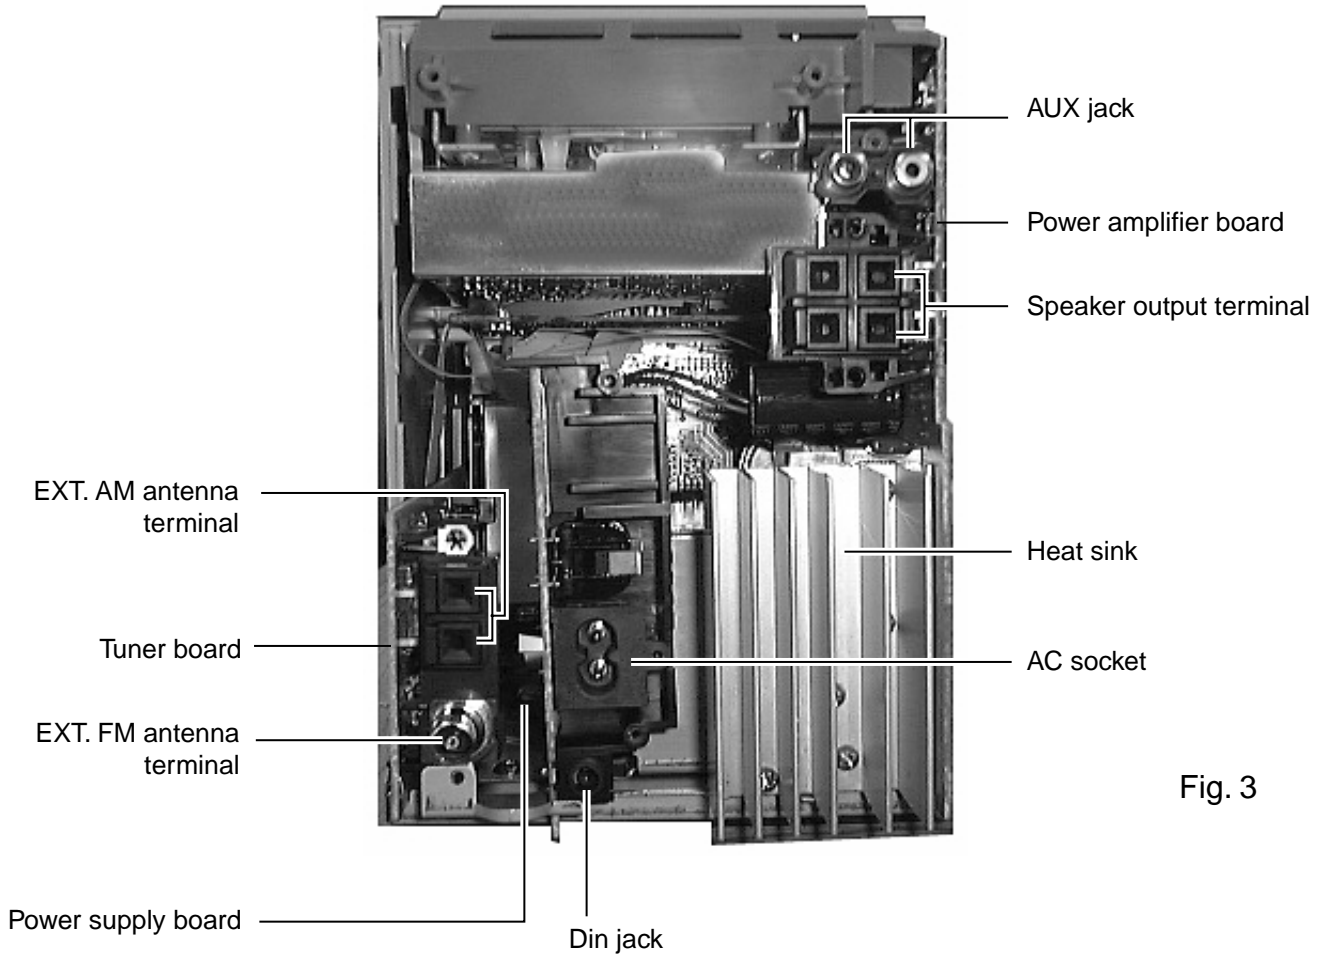

Fig. 3
■ Removing the side panel (L and R) (See Fig. 3 to 6)
3. While moving the side panel (L) in the arrow direction, remove the panel from the left side of the body.
4. While moving the side panel (R) in the arrow direction, remove the panel from the right side of the body.